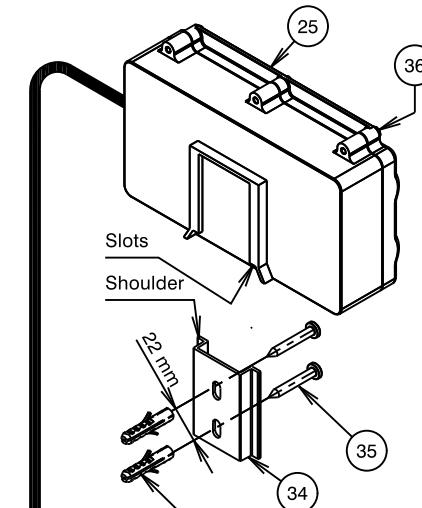

Fig.8 - Battery box installation
- i) Drill two Ø6mm holes, 40mm deep and 22mm apart vertically as shown in **Fig. 8**.
- ii) Insert small end of wall plugs (33) into drilled holes and tap until flush with wall/tile face.
- iii) Align the slots on bracket (34) with the holes on the wall, pass the screws (35) through the slots and insert into the wall plugs (33).
- i) Drill two holes at 22mm apart vertically to suit the self tapping screws supplied as shown in **Fig. 8**.
- ii)Align the slots on bracket (34) with the holes on the wall, pass the screws (35) through the slots and insert into the timber stud.
- iii)Slide the battery box (25) onto the shoulders of bracket (34). Plug the power supply (20) into the mains and turn it ON.
7) Adding/Replacing batteries (See Fig. 8)